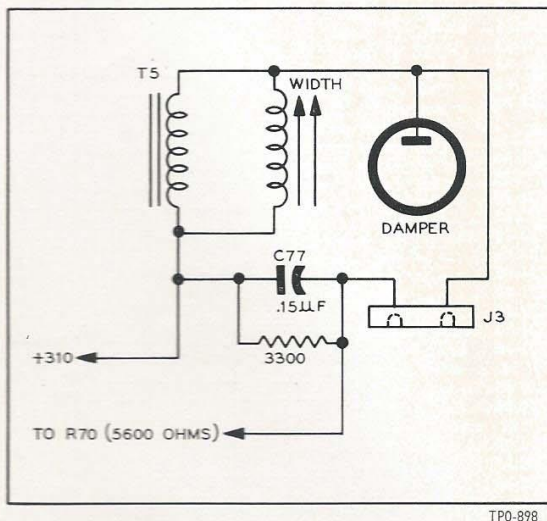

Figure 1. Change in Horizontal-Output Circuit, Models 50-T1403, 50-T1404, and 50-T1406, All Code 125
3. The blocking condenser (C71) in the horizontal-output circuit was rewired as shown in figure 1.